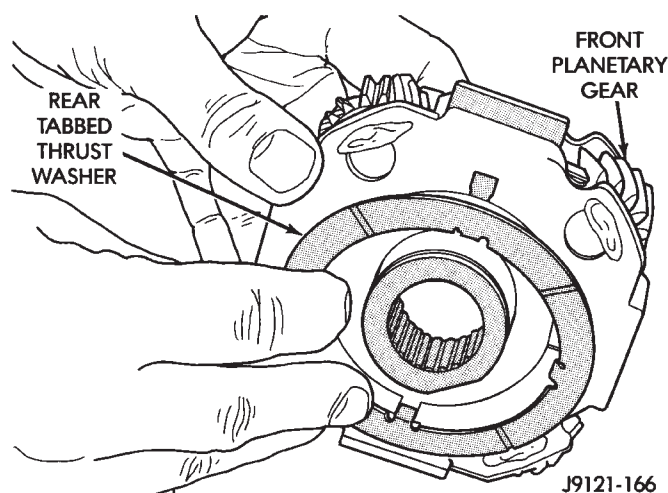

Fig. 158 Installing Rear Thrust Washer On Front Planetary Gear
(13) Install rear thrust washer on front planetary gear (Fig. 158). Use enough petroleum jelly to hold washer in place and be sure all four washer tabs are seated.